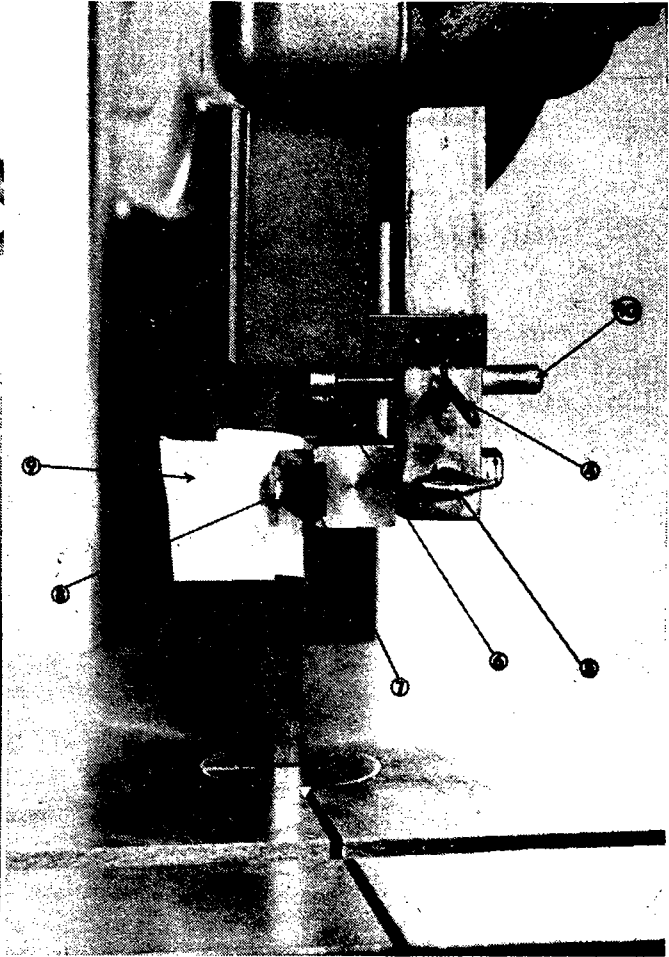

FIGURE 2
**WHEEL ALIGNMENT:** The band wheels are properly aligned at the factory, and should operate properly. However, in shipping, the original adjustment may have moved, necessitating re-alignment. The lower wheel housing should be adjusted by shimming. Upper wheels are mounted on a pivot and can be positioned by turning set screw (7) fig. 2 to the left or right.
**BLADE GUIDE ADJUSTMENT:** For proper operation, the saw blade must be supported by an upper and lower saw guide. The lower guide is mounted under the table and the upper guide is mounted on an adjustable bar above the table. The purpose of the band saw guide is to support the blade in cutting circles. It is very important that the guides be set in proper relation to the saw blade. To set the guides to the saw blade, set the tension on the blade and start the saw to check tracking. Set the upper guide as follows: Loosen set screw on the guide blocks (8) fig. 2 and move the blocks until both upper and lower guides clear the blade. Loosen wingnut (5) fig. 2 and move guide holder until the guide edge is just back of the gullet in the saw blade. Loosen wing screw (4) fig. 2 and adjust backup bearing (6) by turning screw (10) fig. 2 until bearing (6) clears the back of the blade 1/64" when band wheel is turned by hand. To adjust side blocks to blade, set the right hand guide block until it just clears the blade and fasten in place with screw (8). Place a thin piece of paper (9) around saw band and push left hand guide block against saw band. Tighten saw guide block. Repeat this process in setting lower guide. The thin paper strip guarantees proper clearance of blade between guides.